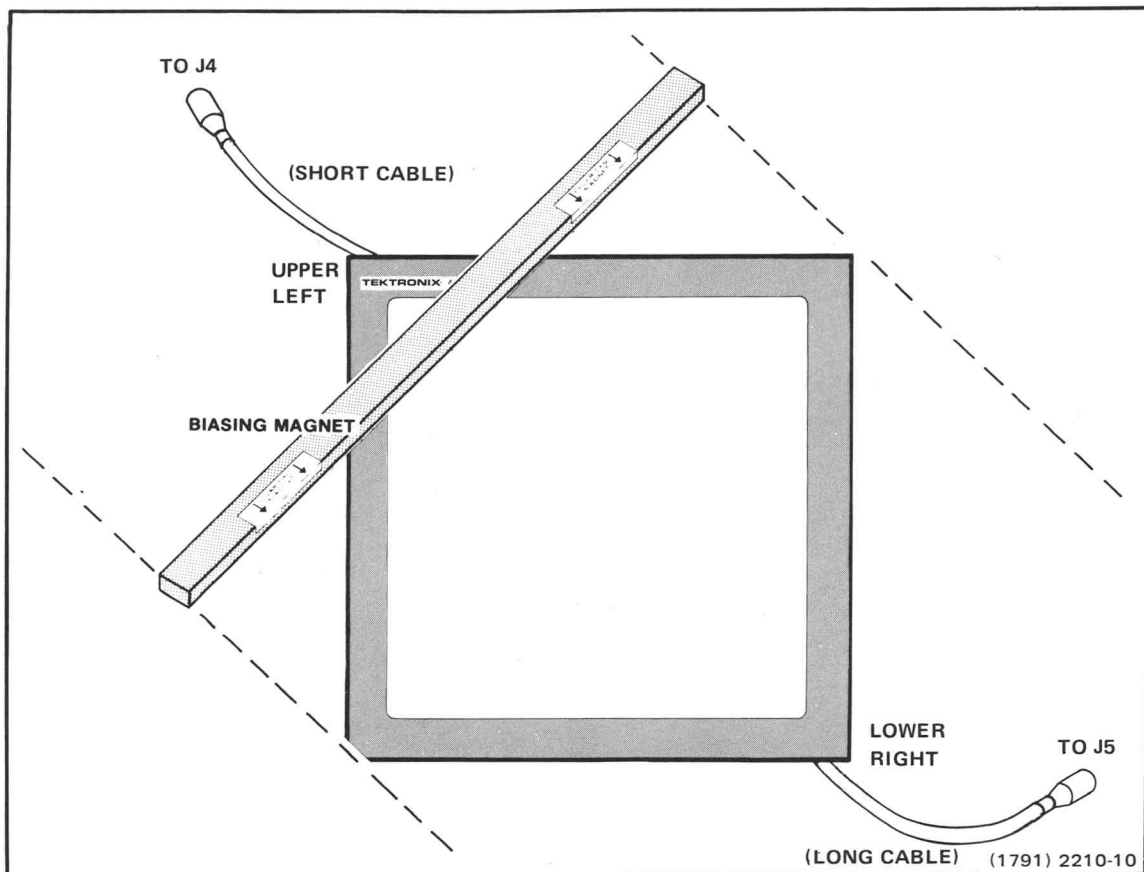

Fig. 4-2. Biasing the Tablet.
2. Place the biasing magnet on the upper left corner of the Tablet surface at a 45° angle to the Tablet edges as shown in Fig. 4-2. Note the markings on the magnet label. The arrows on the label must be pointing forward (steel side up).